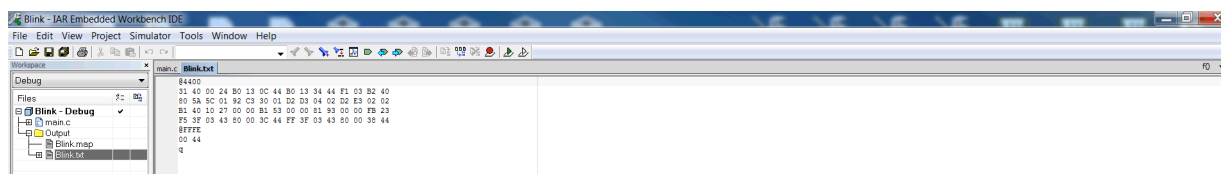

Figure 9. IAR – Output File
3. **Build** or **make** the project. The **Blink.txt** or **Blink.hex** file (see Figure 9) is generated in the **Output** folder.